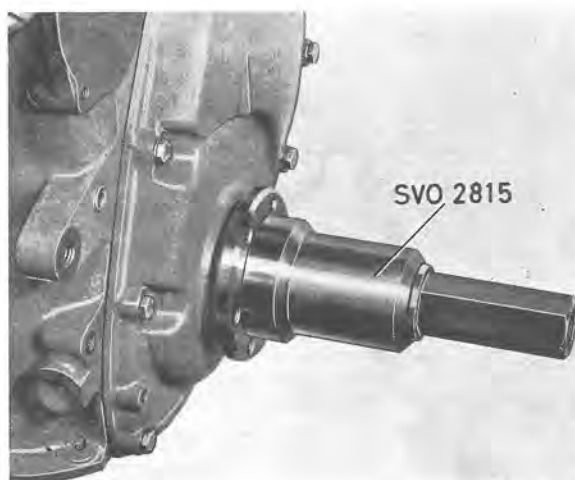

Fig. 2-39. Fitting polygon hub
5. Fit the polygon hub with tool SVO 2815, see Fig. 2-39. Before fitting, the sliding surfaces of the polygon hub should be greased. **Note the marking**, that is, the center punch marks on the crankshaft end and polygon hub. Fit the center bolt and tighten it to torque of 7—8 kpm (50—57 lbft).